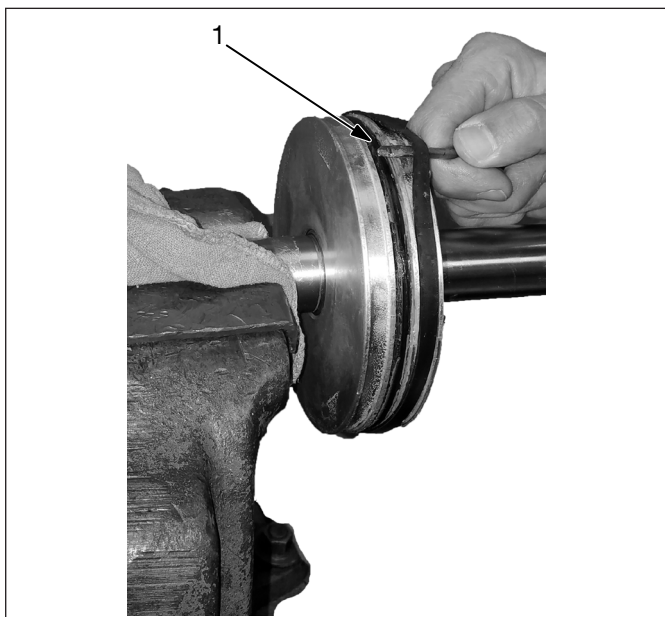

**Figure 4, Piston Seal Removal (View 1 of 2)**
2. Pry and remove wear band (Figure 4, Item 2) starting at the scarf cut (Figure 4, Item 1).
4. Using same non-marring blade, pry up outer piston seal (Figure 4, Item 3). While retaining the seal with blade, rotate the blade around the piston until the outer piston seal is loose. Remove outer piston seal.
1. Using a clean, lint-free rag, remove old grease and seals (Figure 4, Item 1) from end cap (Figure 4, Item 2).
4. Install outer piston seal (Figure 4, Item 3) on top of inner piston seal O-ring (Figure 5, Item 1).
5. Install wear band on piston (Figure 4, Item 2).